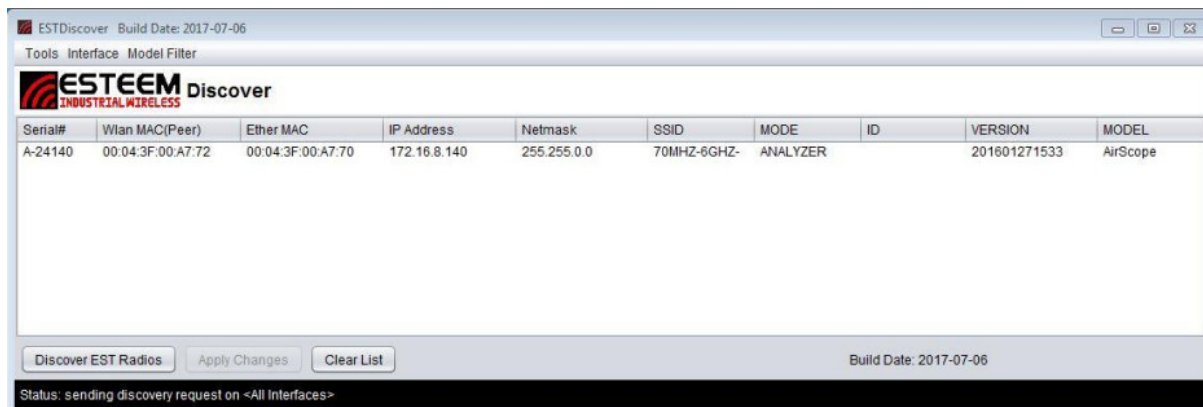

Figure 6: ESTeem Discovery Utility
4. The Airscope will be displayed (Figure 6). If the AirScope is not on the same IP subnet as the computer, double click on the IP and/or Netmask and makes the necessary changes. Press the Apply Changes button when complete.